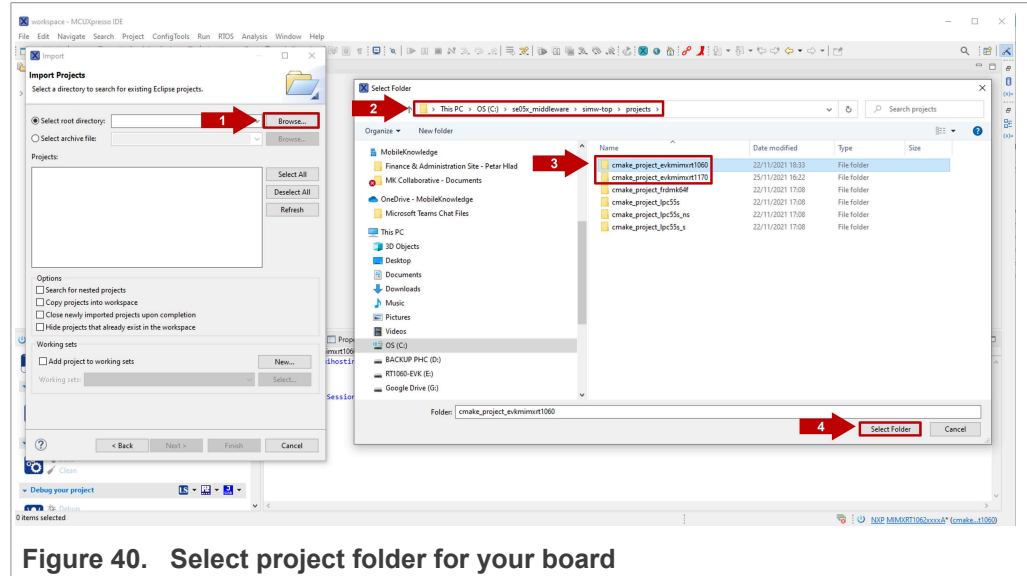

Figure 40. Select project folder for your board
3. In the *Select root directory* option, (1, 2) browse to the location of your i.MX RT1060/1170 projects directory (in our case `C:\se05x_middleware\simw-top\projects`), then (3) select the `cmake_projects_evkbimxrt1060` if you are using the i.MX RT1060
board or the *cmake_projects_evkbimxrt1170* project if you are using the i.MX RT1170 board. Finally, (4) click *Select folder* as shown in Figure 40: